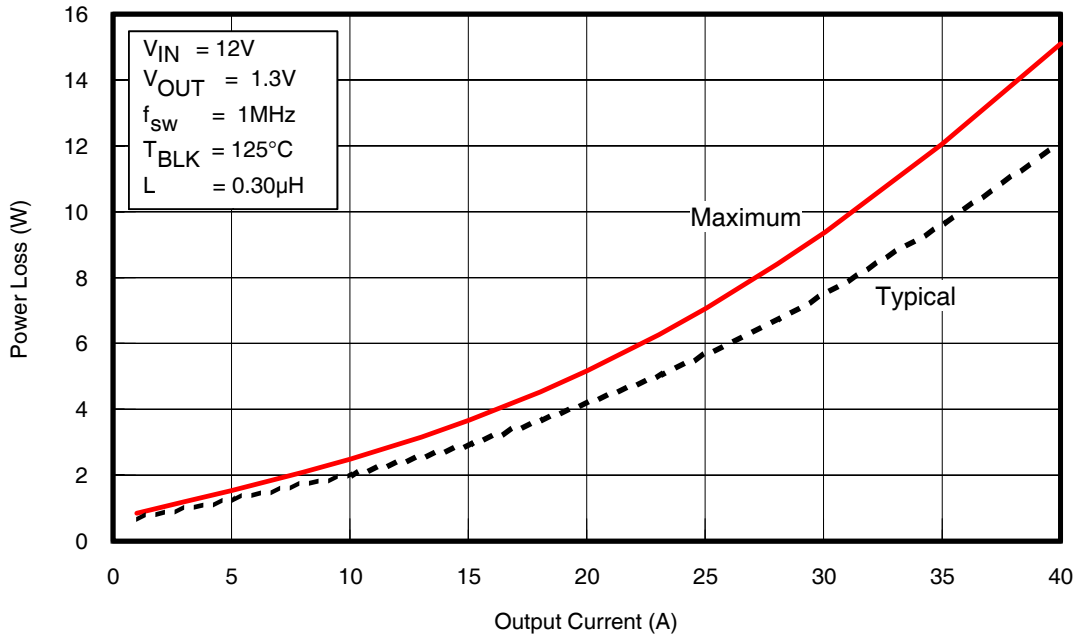
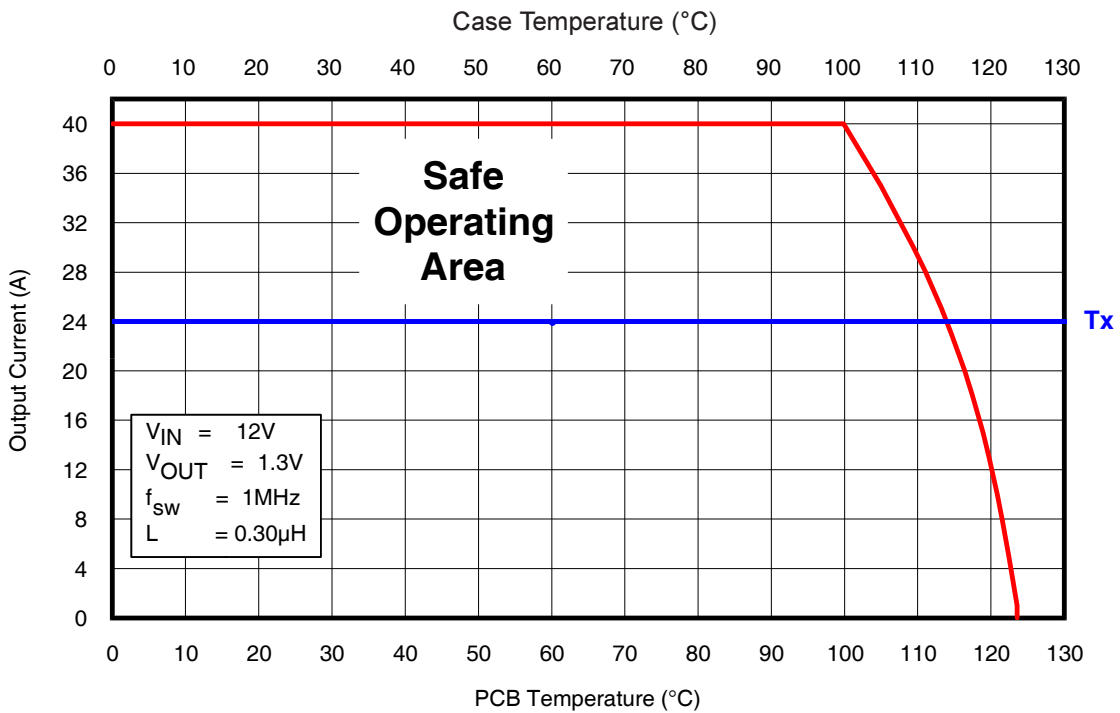
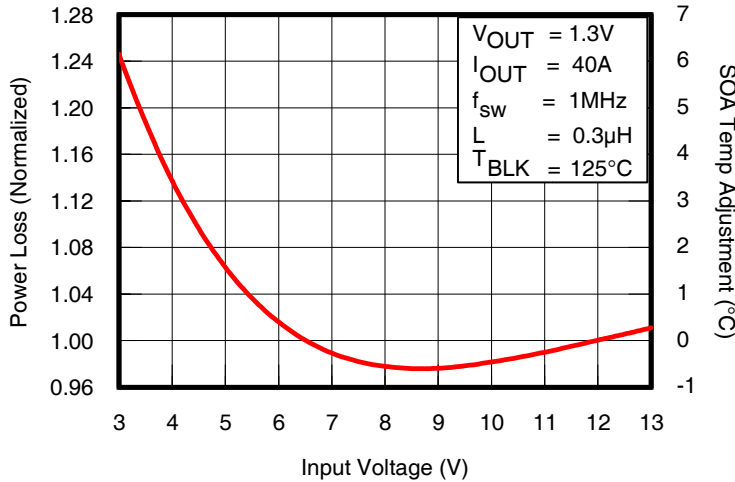

Fig. 1: Power Loss vs. Current
Fig. 2: Safe Operating Area (SOA) vs.  $T_{PCB}$  &  $T_{CASE}$
Fig. 3: Normalized Power Loss vs.  $V_{IN}$
To calculate power loss for a given set of operating conditions, the following procedure should be followed: Determine the maximum current for each iP2003 and obtain the maximum power loss from Fig 1. Use the curves in Figs. 3, 4, 5 and 6 to obtain normalized power loss values that match the operating conditions in the application. The maximum power loss under the operating conditions is then the product of the power loss from Fig. 1 and the normalized values.
To calculate the SOA for a given set of operating conditions, the following procedure should be followed: Determine the maximum PCB temperature and Case temperature at the maximum operating current of each iP2003. Obtain the SOA temperature adjustments that match the operating conditions in the application from Figs. 3, 4, 5 and 6. Then, add the sum of the SOA temperature adjustments to the  $T_x$  axis intercept in Fig 2.
- (Fig. 1) Maximum power loss = 15W
- (Fig. 3) Normalized power loss for input voltage  $\approx 0.98$
- (Fig. 3) SOA Temperature Adjustment for input voltage  $\approx -0.5^{\circ}\text{C}$